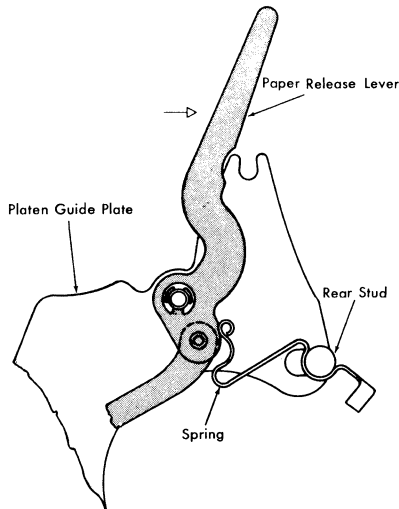

Figure 93. Paper-Release Lever Spring
4. Insert the closed-loop end of the spring between the tab rack and the rear stud that spaces the platen guide plate from the carriage end plate. (Figure 93).